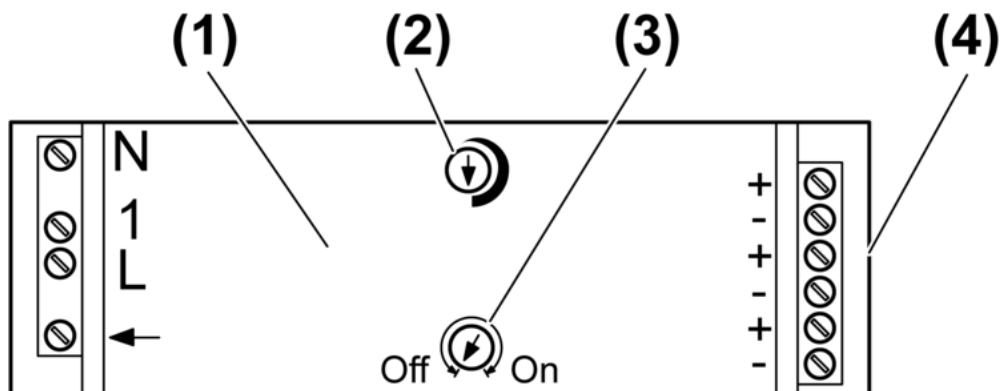

Figure 1: Device components
- Adjust the **basic brightness** (Figure 1) until a basic brightness that is still clearly visible is present.